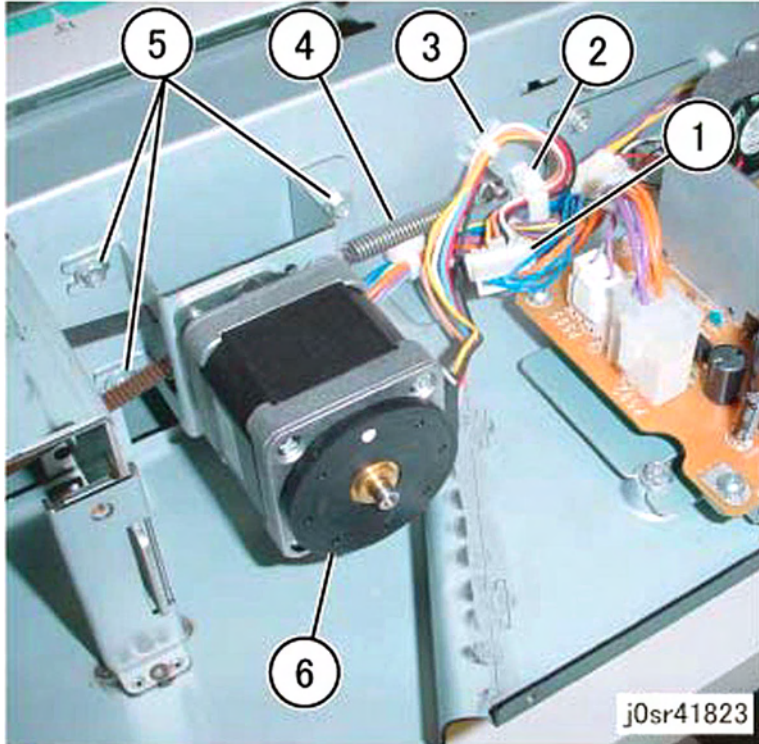

Figure 2 Removing the Carriage Motor Assembly
4. Remove the Carriage Motor Assembly (Figure 2).